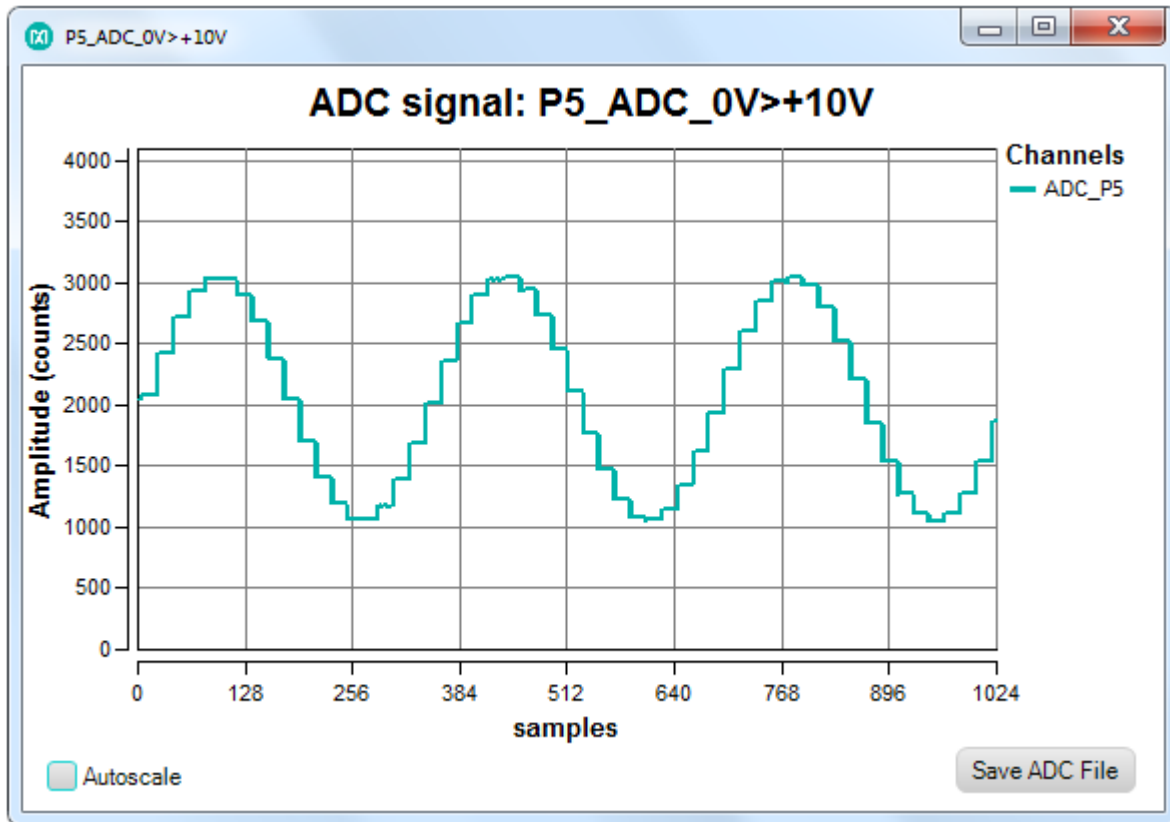

Figure 26. Sine-wave-like waveform without sample delay.
4. After connecting the DAC to the ADC, observe a sine-wave-like-shaped waveform in the ADC plot window as shown in **Figure 26**.